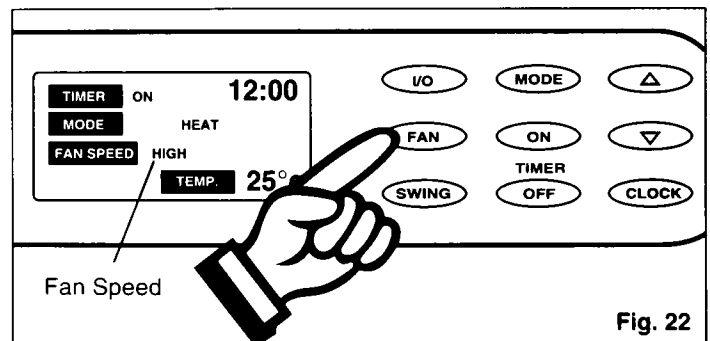

Fig. 22
- 3) Press the **FAN** key to select the desired fan speed setting (**High-Low**). Your selection will be displayed in the **LCD** window. Each depression of the fan key will alternate between the different fan speed settings. *Fig. 22*.